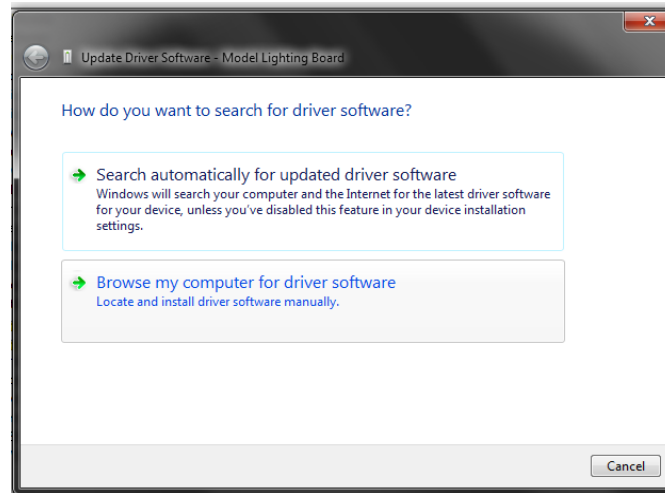

Figure 3: "Browse my computer for driver software"
6. A window will pop up asking how you want to search for the drive. Select “Browse my computer for the driver software” as shown in Figure 3.